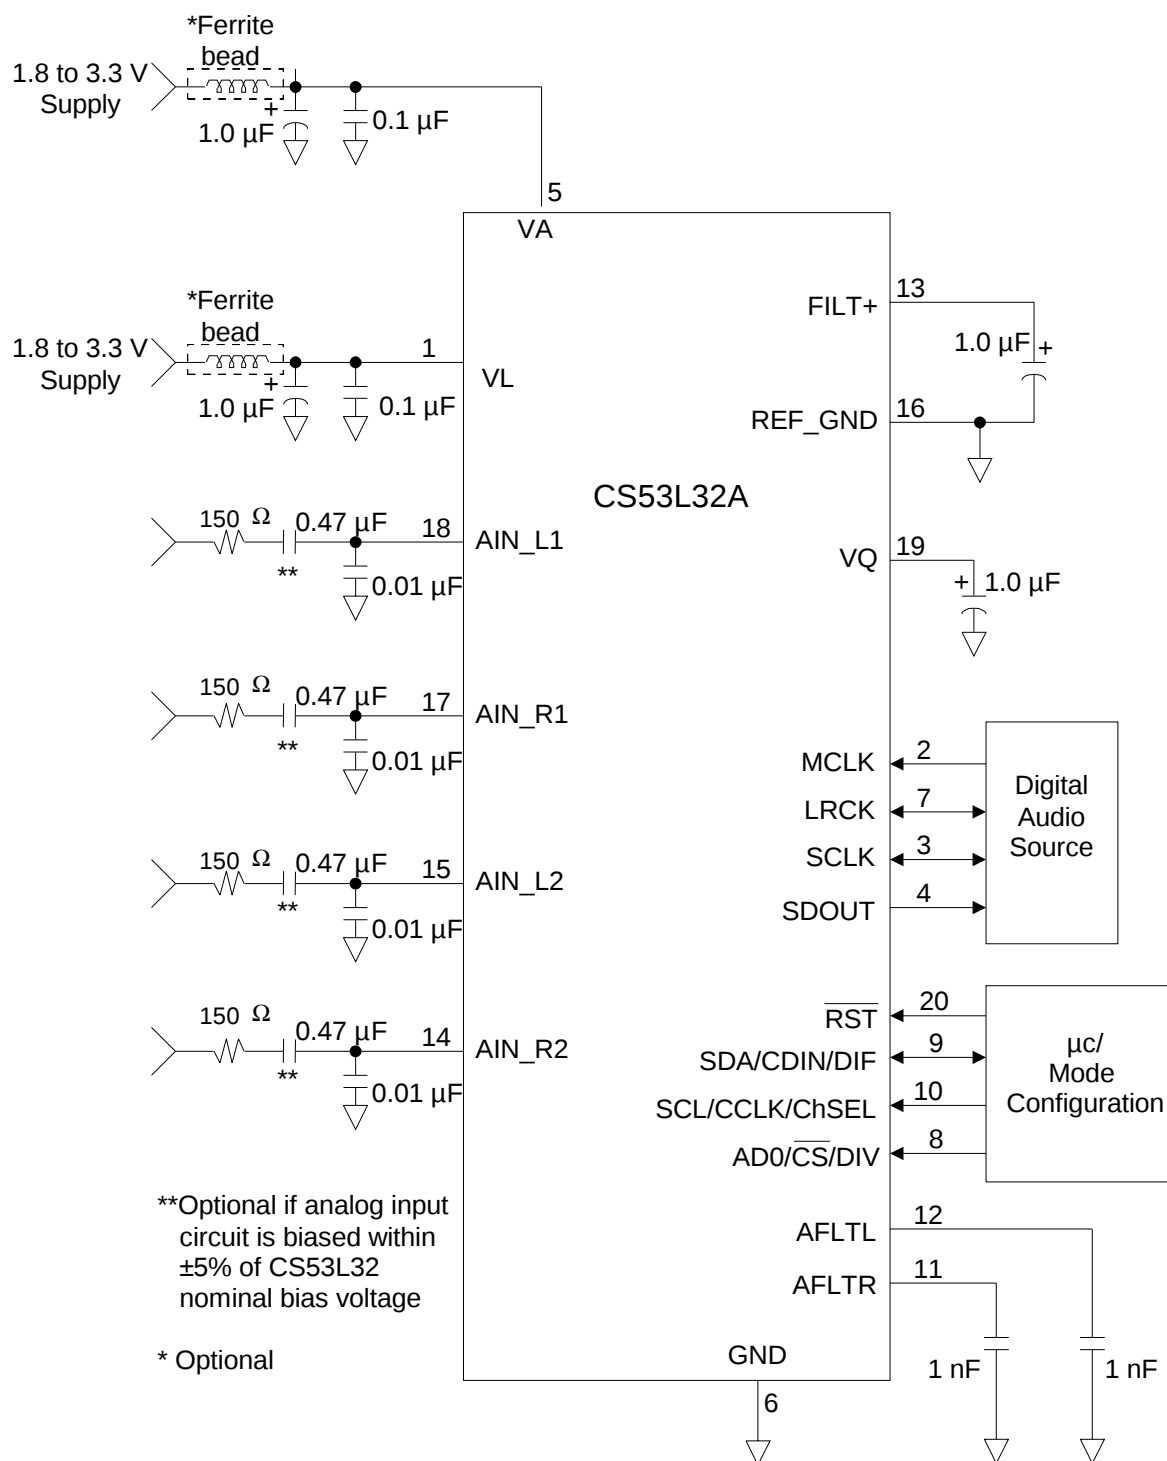

Figure 5. Typical Connection Diagram
7. Valid with the recommended capacitor values on FILT+ and VQ as shown in Figure 5.